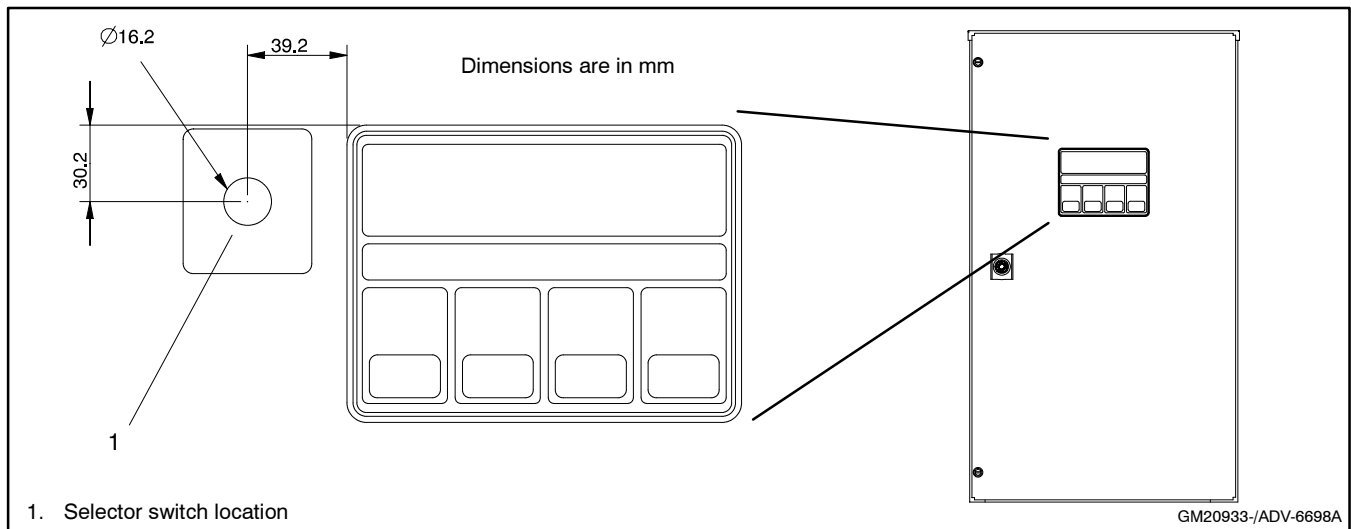

Figure 3 Drill or Punch Hole in Transfer Switch Door
- 2.1 Drill or hole punch a 16.2 mm (0.64 in.) diameter hole in the transfer switch door as shown in Figure 3. Dimensions shown are mm. Use a hole saw or hole punch/die and follow the manufacturer's instructions. Remove burrs and metal chips.